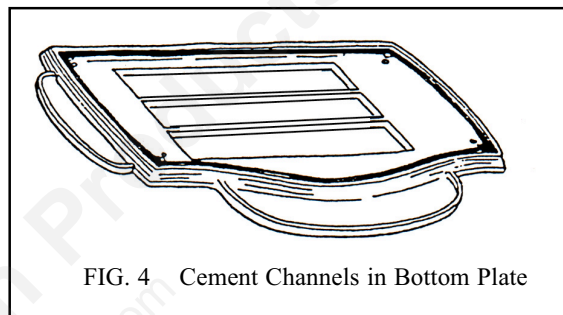

FIG. 4 Cement Channels in Bottom Plate
*Cement all four channels in the Bottom Plate (FIG. 4).*